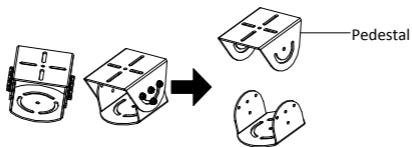

Figure 2-3 PT Joint
1. Disassemble the PT joint as shown in Figure 2-3 .